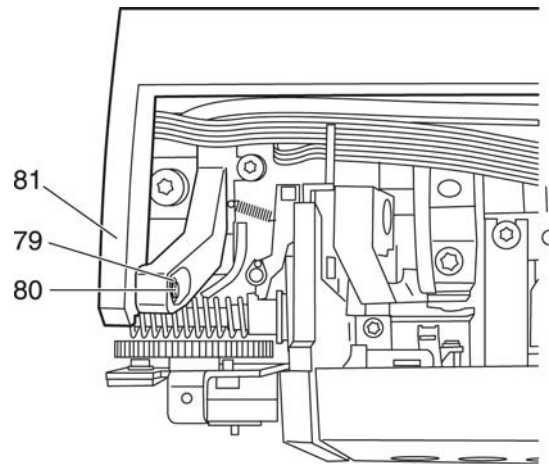

Fig. 25
- Remove retaining washer 79 from bolt 80 (fig. 25).
- Fit carrying handle 81 and bolt 80 (fig. 25).